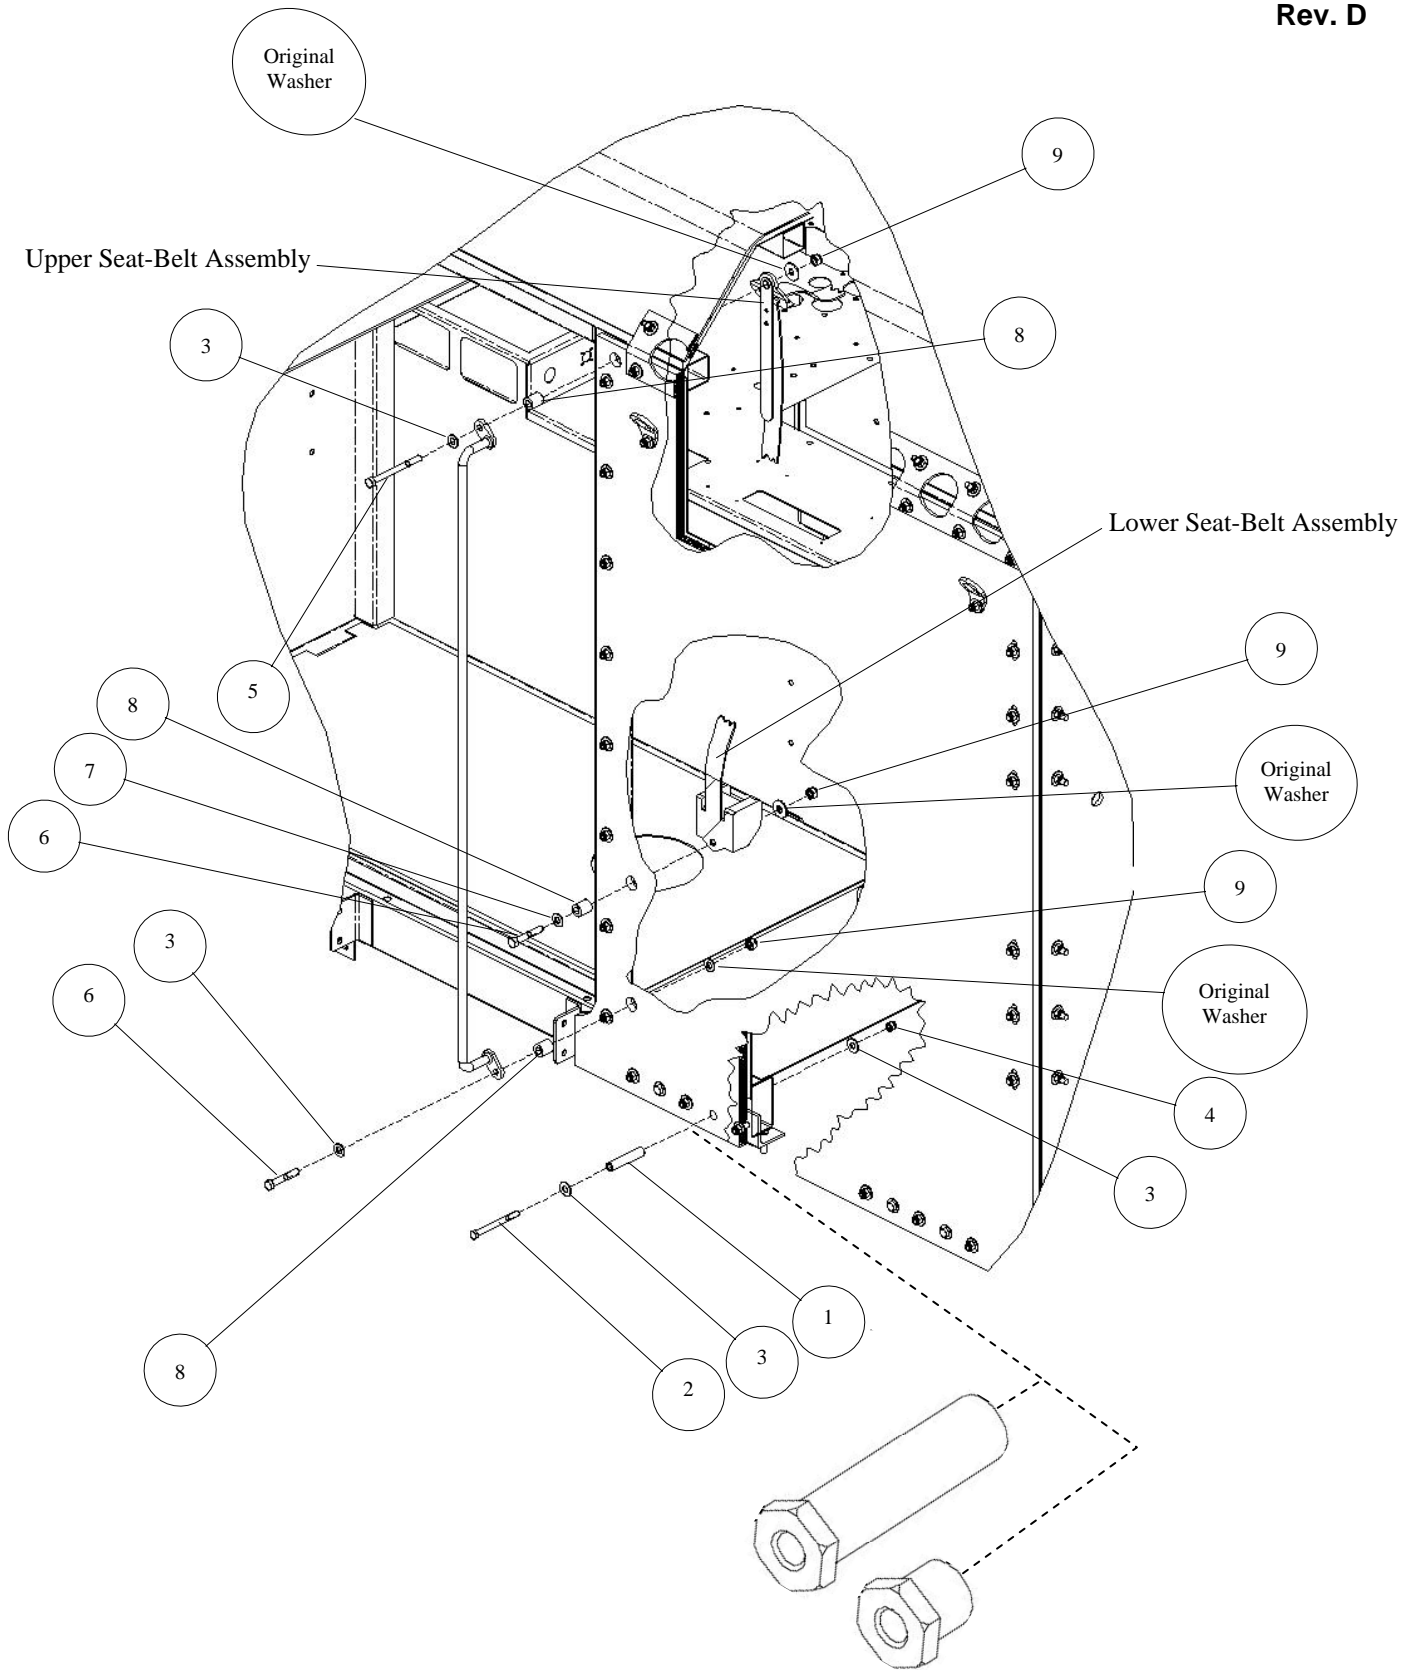

Figure 3-21. Cab Frame Rail Sleeve Bushing and Grab Handle Installation.
4. Install cab frame rail sleeve bushings, seat belt assemblies, and grab handle as follows (see Figure 3-21):